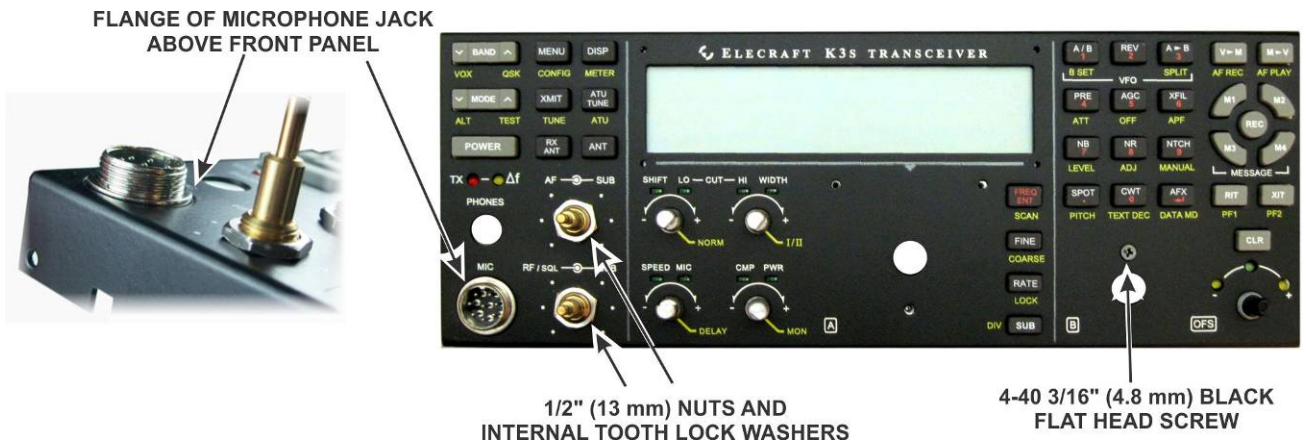

Figure 11. Mounting the Front Panel on the Front Panel Board.
□ Place the front panel board face up on your work surface, then set the front panel over it as shown in Figure 11. Check to ensure the LEDs above the four controls under the LCD display, the red and yellow LEDs below the **POWER** button, and the three LEDs above the control in the lower right corner of the panel are positioned in their openings. If necessary, lift the panel off and gently adjust the position of the LEDs.
□ Ensure the flange on the MIC connector is not caught behind the panel. The flange should be slightly above the panel as shown all the way around its circumference as shown in Figure 11. It may be a snug fit requiring you to press it into place, pushing on the back of the connector. If the connector refuses to fit through the hole in the front panel, use a sharp tool to carefully remove the paint from the inside edge where the connector is binding against the hole. Work from the *inside* of the front panel to avoid damaging the paint on the front edge of the MIC connector hole.
□ Secure the front panel to the board with a 4-40 3/16" (4.8 mm) black flat head screw (SS) above the control opening near the right end and a 1/2" (13mm) nut and inside tooth lock washer on each concentric pot bushing near the left end as shown. Tighten the screw and nuts only until you feel firm resistance. Be very careful not to scratch the front panel.